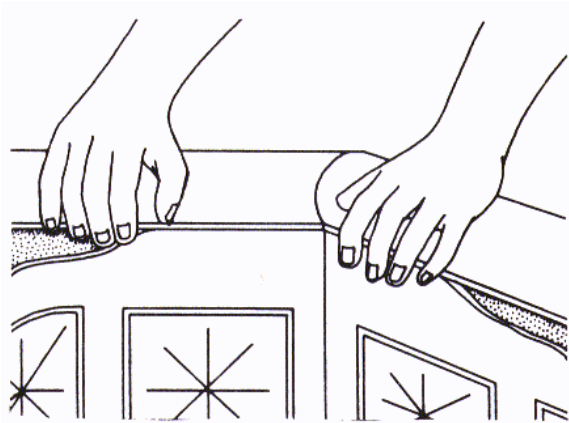

Figure 23 - Liner Bead Installation
7. From the outside of the pool, snap liner bead into the liner track in each shallow end corner (see Figure 23). Continue snapping the bead into the track across the shallow end of the pool. Now, start down the long sides, toward the deep end. Several feet past the breakline, stop and square the liner over the breakline, using the seam as a guide. When the liner is square, continue snapping the bead into the track, being careful not to overstretch the liner. Push the liner bead into the liner track completely to insure proper locking.